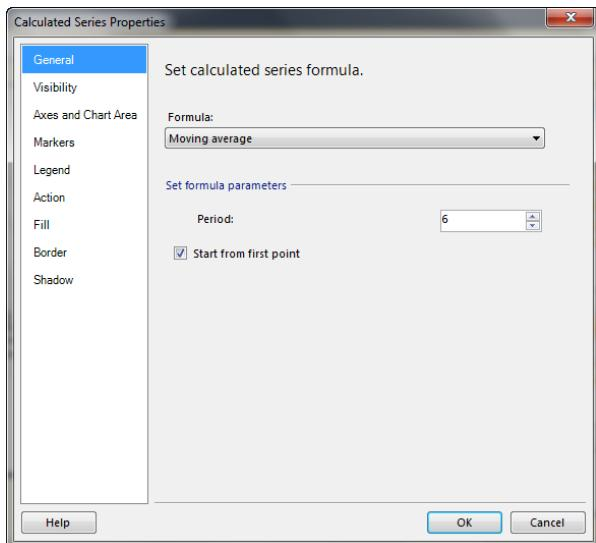

Figure 6-13
9. In the Calculated Series Properties, select the formula to apply. The default is Moving average, which works for this example. Notice that there are formula parameters that can be configured to set the number of periods as well as whether the formula starts at the first point in the series. Set Period to 6 for a 6-month moving average and check Start from first point (see Figure 6-13).